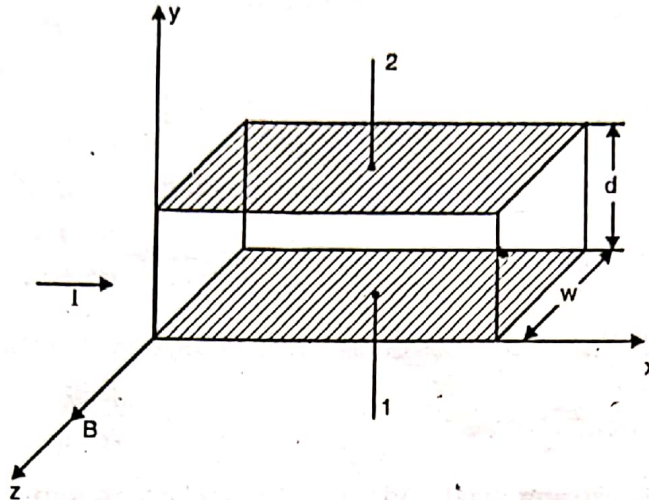

Fig. 2.25.1 : Hall effect
- Consider a rectangular strip of a N-type semiconducting material as shown in Fig. 2.25.1.
- Thus the electrons will be forced to move downward towards side 1 in Fig. 2.25.1 and side 1 becomes negatively charged with respect to side 2.